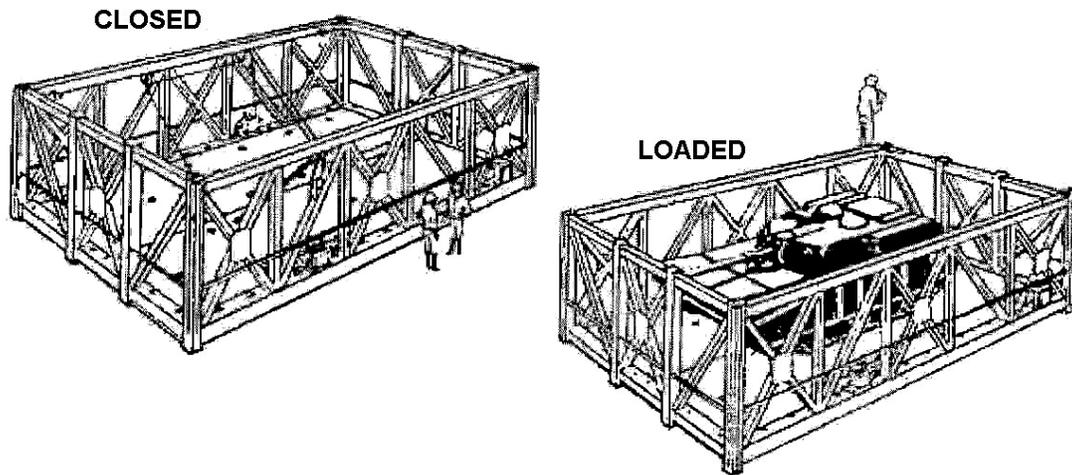

Figure 3-47
2. Secure vehicles or cargo in seasheds (see Figure 3-47).